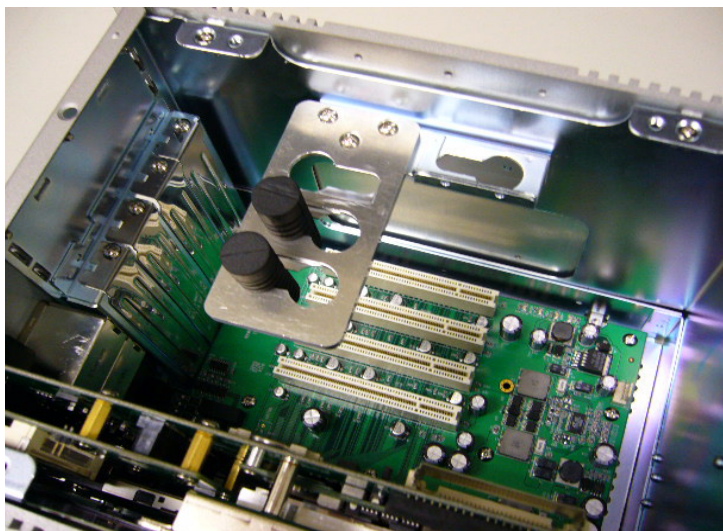

Figure 3.3: 2nd PCI-bus Card Installation
6. Install PCI extension to hold 2nd anti-vibration rubber (Figure 3.3) and screw the 2nd anti-vibration rubber towards the 2nd PCI card until it is fixed.